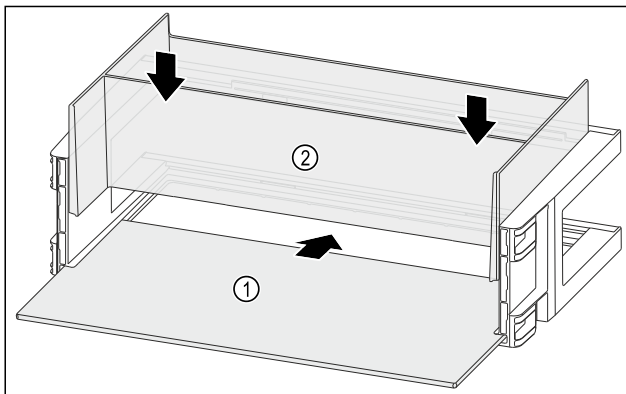

Fig. 144
- ▶ Push the shelf Fig. 144 (1) into the side recesses.
- ▶ Insert the organiser Fig. 144 (2).